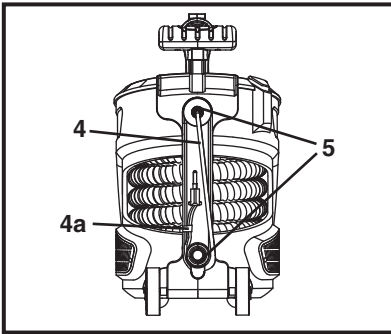

Fig. 17
- > Wrap the power cord (4) onto the holders (5) and secure it with the clip (4a) (Fig. 17).